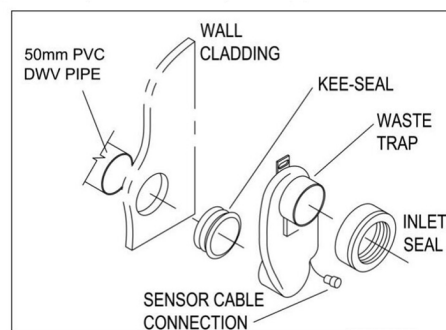

Fig. 6
4. Before fitting waste trap, check fit of trap outlet pipe seal into 50mm PVC DWV pipe (Fig. 6).